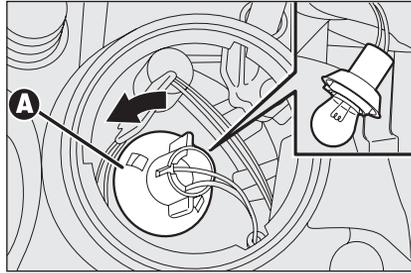

fig. 28
- turn the bulb holder **A-fig. 28** counter-clockwise, remove the bulb and replace it;